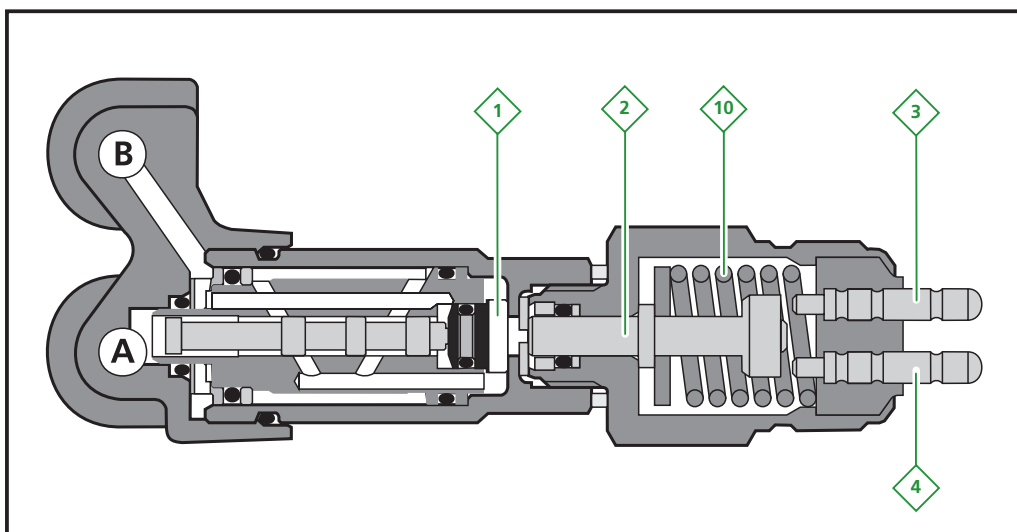

figure 3.7 Principle of operation of grease pressure switch - first phase
During this phase both channels A and B are not under pressure (see figure 3.7). There is also no pressure in chamber (1). Spring (10) pushes switch plunger (2) to the left. The electrical contact (3 and 4) is open.